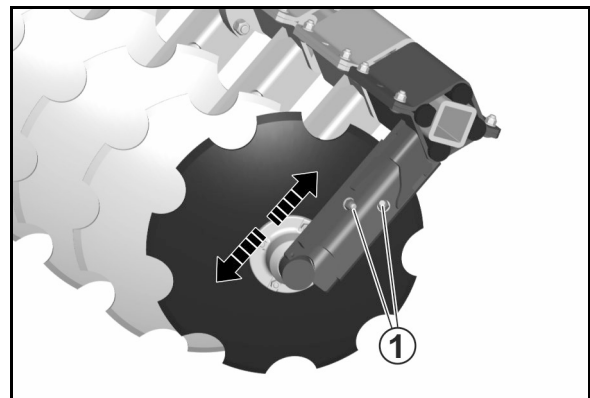

Fig. 33
1. Remove clip pin (Fig. 33/3).
2. Engage swivel lever (Fig. 33/2) according to desired direction of rotation.
3. Extend/shorten spindle (Fig. 33/1) by means of the hand lever.
4. Secure setting with clip pin (Fig. 33/3).